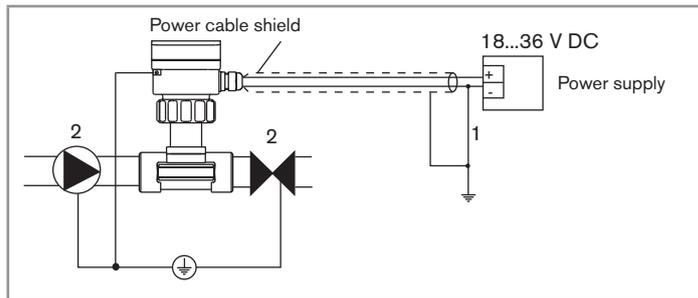

Fig. 15 : Earthing the device
- Connect the negative power supply terminal to the earth to suppress the effects of common mode currents. If this connection cannot be made directly, a 100 nF/50 V capacitor can be connected between the negative power supply terminal and the earth (marked 1, Fig. 15).
- connect to the same earth the different metallic instruments (valve, pump...) located near the device (marks 2, Fig. 15).
- insert the metal parts (not provided) in the plastic pipes, upstream and downstream of the device (marked 2, Fig. 15).
- connect the metal parts to the same earth (Fig. 15).